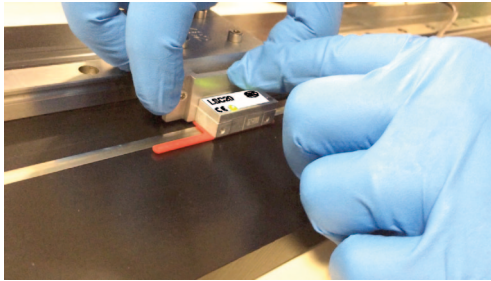

Fig. 4:
2. Place shim between the bottom of the sensor head and the top of the scale and press down in the Z-axis. Shim can be inserted either parallel or perpendicular to the scale. The shim features cut-outs to allow signal level to be monitored during sensor mounting Fig. 4.